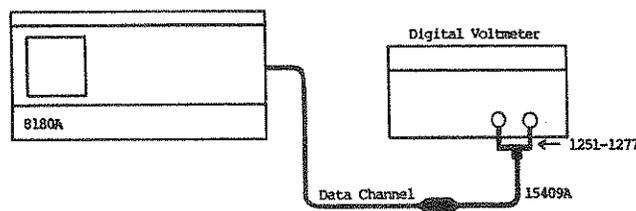

Figure 4-7 Level Accuracy Test Setup
6. Connect equipment as shown in Figure 4-7 and press RUN